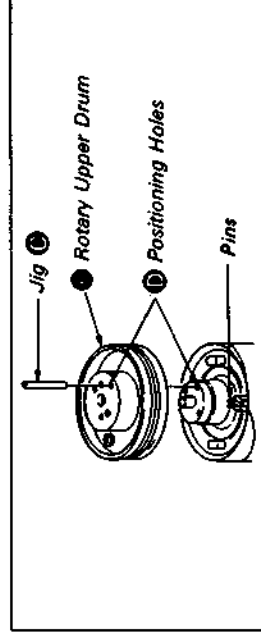

Fig. 7-47.
- 2) Insert Jig ⑤ in the positioning hole ① so that the holes of the rotary upper drum ● and flange coincide. Lightly insert the rotary upper drum in the drum shaft while aligning their positions. (See Fig. 7-47.) (Check that pins are projecting above the holes on the printed circuit board of the rotary upper drum. When the pins are caught, correct using tweezers, etc.)